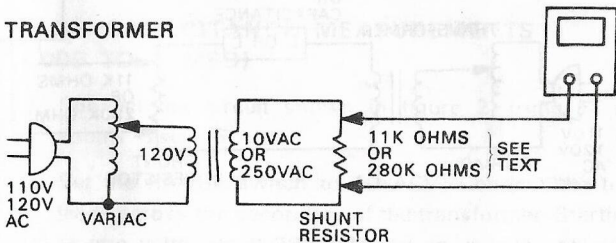

FIGURE 2
Wire the circuit shown in Fig. 2 using a power transformer and variable ac supply voltage. Connect an 11 kohms resistor across the leads. (Note: The 11 kohms resistor is used across the test leads when measuring inductance and high capacitance. A 280 kohms resistor is used across the test leads when measuring low capacitance.) Any inductance between 4 and 2000 henrys can be measured.
1. Set the RANGE switch to 10 ACV. Connect the test leads across the secondary of the transformer, as shown in Figure 2. Starting at zero volts, slowly increase the ac voltage until you read 10 volts.
1. Connect the circuit shown in figure 2, using an 11 kohms resistor.
1. Connect the circuit shown in Figure 2, using a 280,000 ohms resistor.